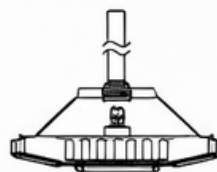

Figure 7
2. Unscrew the nut from customer supplied 3/4"NPT stem, make the stem hole on bracket through 3/4"NPT stem, then screw the nut back to 3/4"NPT, and fix it. (Figure 7).
2. Unscrew the nut from customer supplied 3/4"NPT stem, make the stem hole on mounting bracket through 3/4"NPT stem, then screw the nut back to 3/4"NPT, and fix it. (Figure 7)